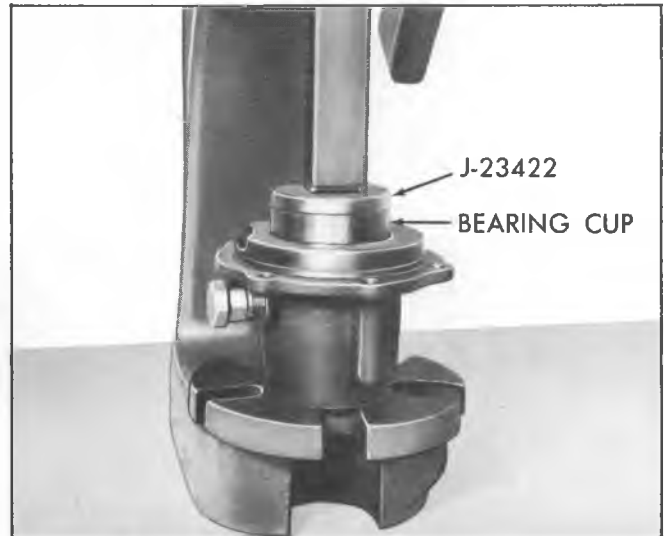

Fig. 10D--Installing Rear Output Shaft Front Bearing Cup
3. Install the front bearing cup in the front housing bore using Tool J-23423 as shown in Figure 10D until cup seats in housing.